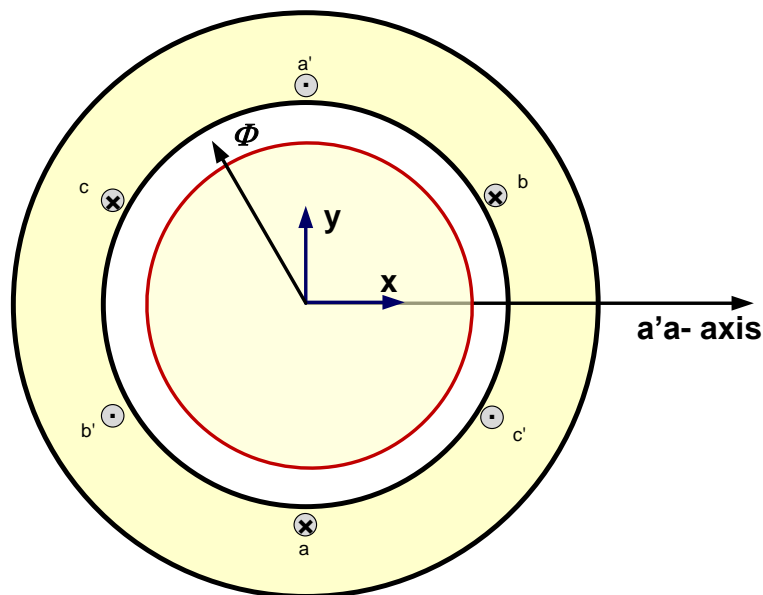

Figure Q3. Cross section area of a stator with three-phase windings
3. Figure Q3 shows a cross section area of a three-phase ac motor. The aim of the question is to calculate the net magnetic flux in the air-gap,  $\Phi$ . Assume that the three-phase currents are flowing in the windings as follows: